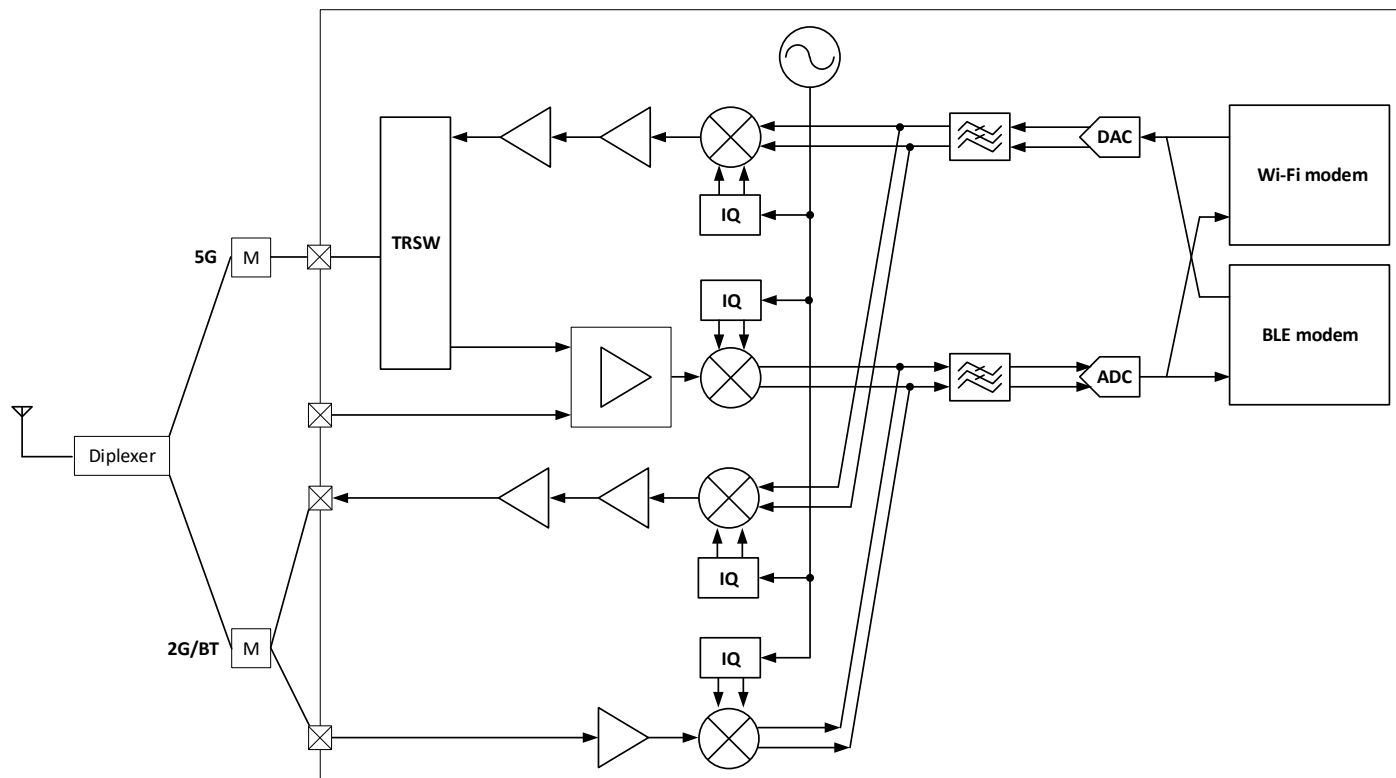

Fig 6-1 RF block diagram
The radio frequency (RF) block diagram of RTL872xD, including Wi-Fi and BLE modem, is given in Fig 6-1.